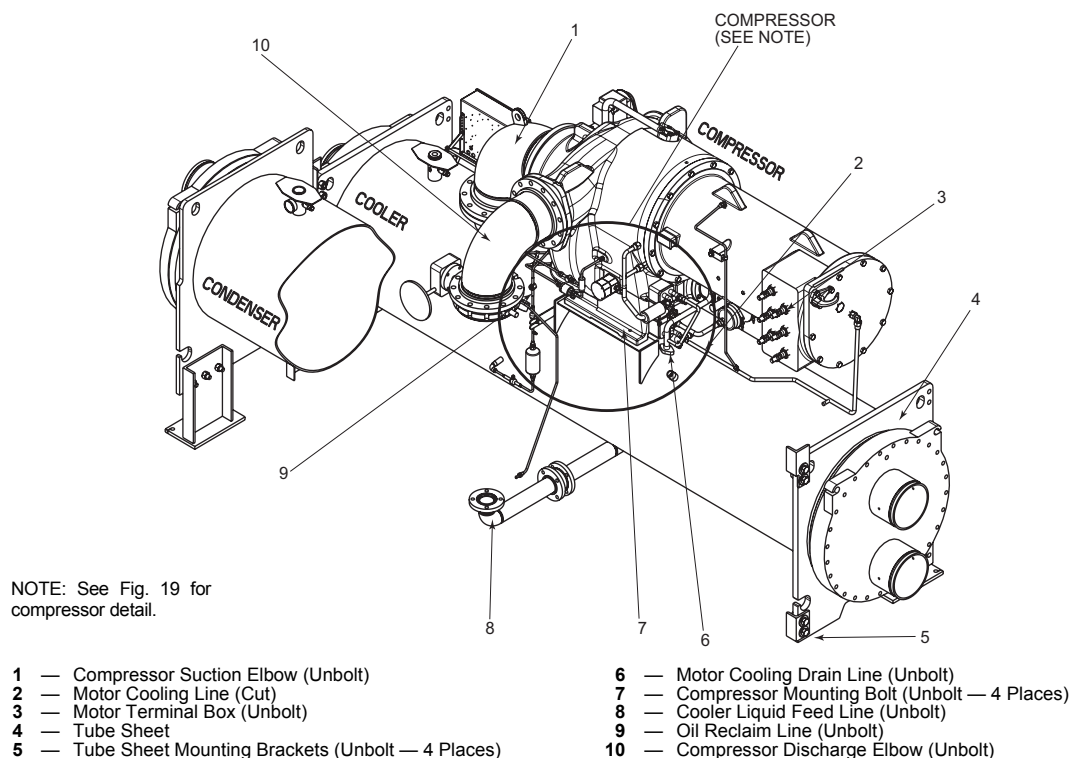

Fig. 16 — Cooler, Side View
1. Place a support plate under each tube sheet to keep each vessel level (Fig. 16, Item 4).
2. Cut the refrigerant motor cooling line at the location shown (Fig. 16, Item 2).
4. Unbolt the cooler liquid feed line at the location shown (Fig. 16, Item 8).
- d. motor power wires at the motor terminal box (Fig. 16, Item 3)
8. Disconnect the tube sheet mounting brackets on the tube sheets (Fig. 16, Item 5).
1. Unbolt the compressor suction and discharge elbows (Fig. 16, Items 1 and 10).
3. Disconnect the motor refrigerant return line (Fig. 16, Item 6).
5. Disconnect the flared fitting for the oil reclaim line (Fig. 16, Item 9).
8. Disconnect motor power cables at the VFD lugs (Fig. 16, Item 3).
10. Unbolt the compressor mounting from the cooler (Fig. 16, Item 7).